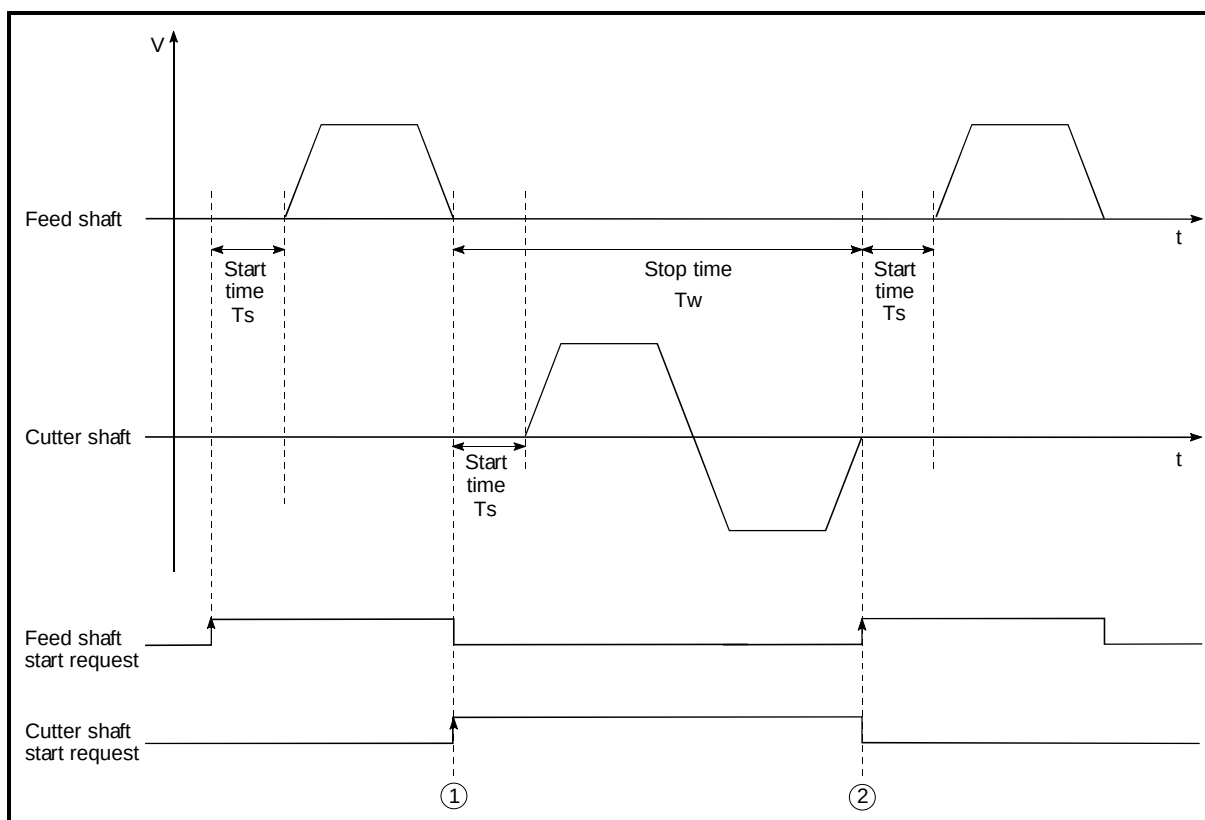

Fig. 12.48 Operation timings of system example
to cut the stock to fixed size. The operations of the feed shaft and cutter shaft are represented as shown in Fig. 12.48.
In Fig. 12.48, the feed shaft stands by during the stop time T_w .
- (1) The time required to analyze the positioning data is up to 7ms.
- (2) After positioning data analysis, the system is put in an execution prohibition flag OFF waiting status. Any change made to the positioning data in the execution prohibition flag OFF waiting status is not reflected on the positioning data. Change the positioning data before turning ON the positioning start signal.
- (3) The pre-reading start function is invalid if the execution prohibition flag is turned OFF between when the positioning start signal has turned ON and when positioning data analysis is completed ($T_a < \text{start time}$, T_a : Refer to Fig. 12.48).
- (4) The data No. which can be executed positioning start using "[Cd.3] Positioning start No." with the pre-reading start function are No. 1 to 600 only. Performing the pre-reading start function at the setting of No. 7000 to 7004 or 9001 to 9004 will result in an outside start No. range error (Error code: 543).
- (5) Always turn ON the execution prohibition flag at the same time or before turning ON the positioning start signal. Pre-reading may not be started if the execution prohibition flag is turned ON during T_a after the positioning start signal is turned ON. The pre-reading start function is invalid if the execution prohibition flag is turned ON after positioning start (pulse output) with the execution prohibition flag OFF. (It is made valid at the next positioning start.)